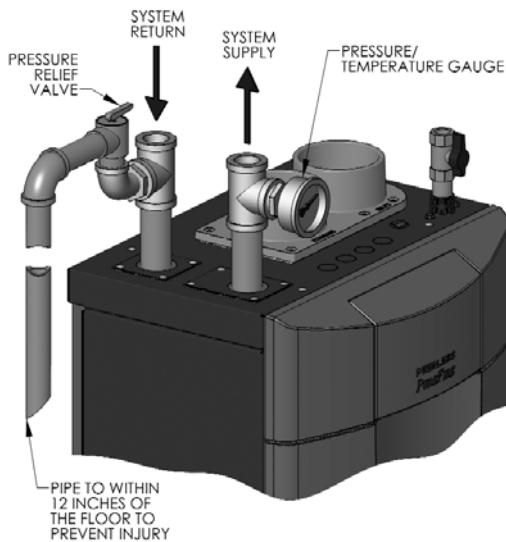

Figure 4.2: Relief Valve Installation – PF-50, PF-80, PF-110 & PF-140
1. *Pressure/Temperature Gauge*: A combination pressure/temperature gauge is provided with each *PUREFIRE*® boiler to be mounted in the piping from the boiler supply to the system as shown in Figure 4.2. Most local codes require this gauge.
The valve is to be installed as shown in Figures 4.2 or 4.3. Pipe the discharge of the relief valve to within 12" of the floor and close to a floor drain.